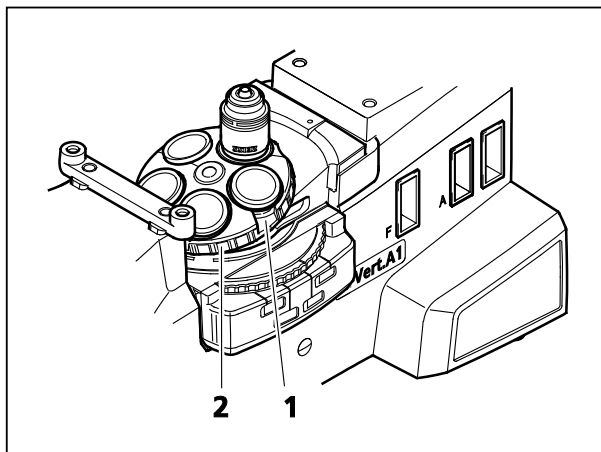

Fig. 2-20 Five-Position Objective Nosepiece
- You can change objectives quickly by rotating the objective nosepiece via the knurled ring (Fig. 2-20/2).
- Three of the objective nosepiece positions feature a slot into which a DIC slider can be inserted (Fig. 2-20/1).